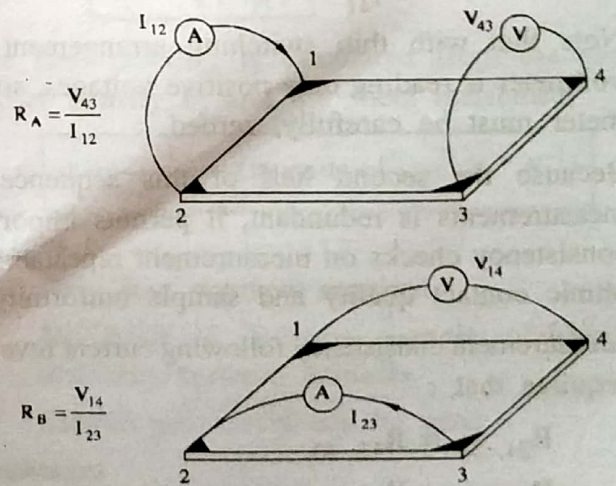

FIG. 4.2 : SCHEMATIC OF A VAN DER PAUW CONFIGURATION USED IN THE DETERMINATION OF TWO CHARACTERISTICS R_A AND R_B
- They are named as 1, 2, 3 and 4 counter clockwise as shown in Fig. 4.2(a).
- We define the following parameters (see Fig. 4.2).